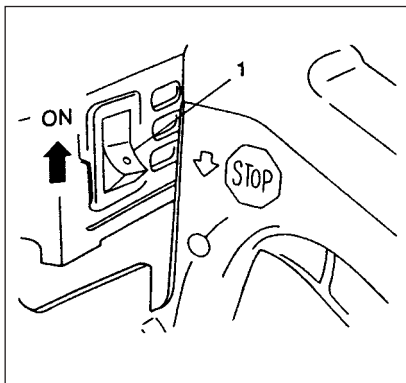

Fig. 2-2
### Start (Fig. 2-2, 2B, 3, 4, 4B)
#### ⚠ VARNING! (Fig.2-2)
1. Skjut stoppknappen (1) i ON-läge. (Fig. 2-2)